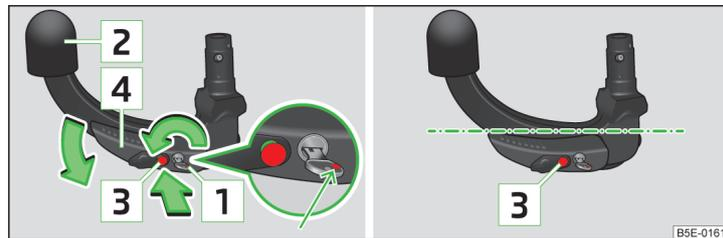

Fig. 156 Setting the ready position/ready position
- Turn key **1** in direction of the arrow, so that the red marking is facing upwards » Fig. 156.